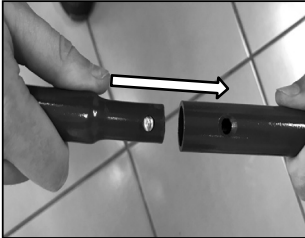

fig 1.
1. Ensuring the locking holes are aligned, insert the upper handle [5] into the lower handle [4] (fig.1).